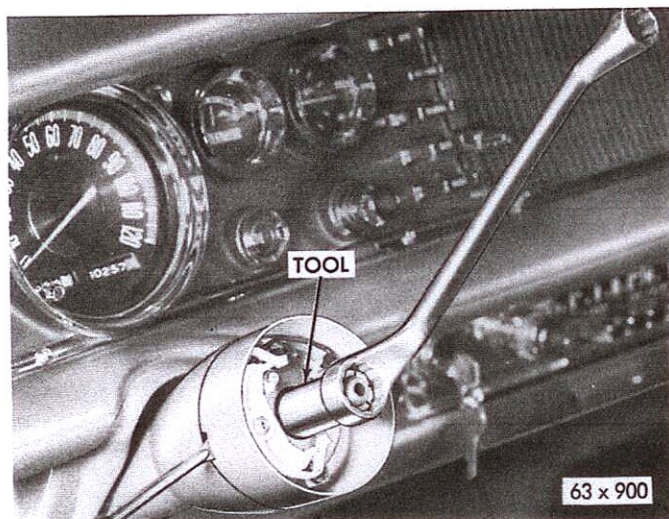

Fig. 16 - Installing Bearing and Retainer Ring
- (6) Install the jacket tube support bracket clamp at the instrument panel. Tighten the clamp bolts to 50-inch-pounds torque.
- (7) Connect the directional signal wires and the horn wire at the connectors.
- (8) Install the directional switch lever.
- (9) Position the snap ring against the top of the bearing and place the installing Tool Sleeve C-3879, then a flat washer and the steering wheel nut on the top end of the steering shaft in that order (Fig. 16).
- (10) Turn the steering wheel retaining nut to exert pressure on the installing sleeve and upper snap ring and bearing, this action will press the bearing down onto the knurled section of the steering shaft and against the lower snap ring and flatten the upper snap ring so it can enter the groove in the steering shaft. Be sure the snap ring is firmly seated in the steering shaft groove. This lock ring places the upper column tube in the proper relation with the worm shaft coupling pin. Remove the steering wheel nut, washer and sleeve tool.